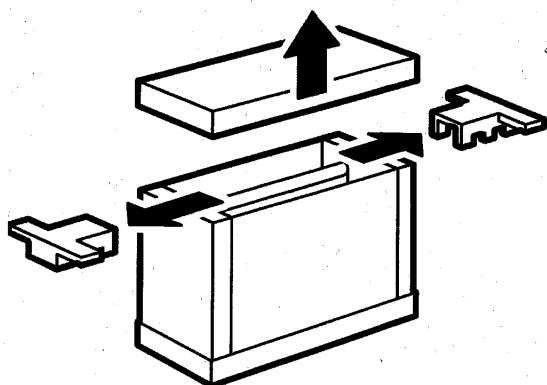

fig. 1
- ❶ Remove the cardboard lid as shown (fig. 1).
- ❷ Remove the top cushions left and right.